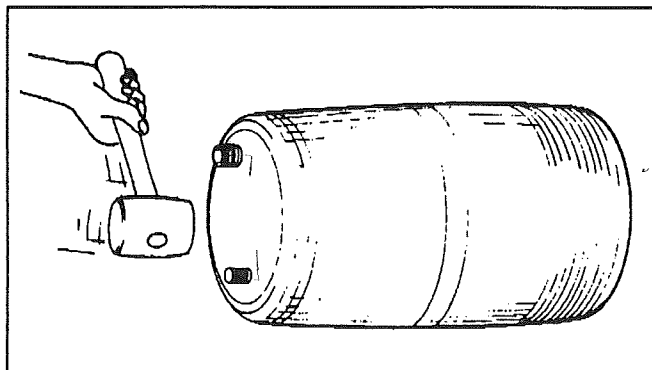

FIG. 9
- Proceed with the removal of the upper retainer. Use a rubber hammer and tap on the upper retainer until it is loosened from the bellows bead (see figure 9).